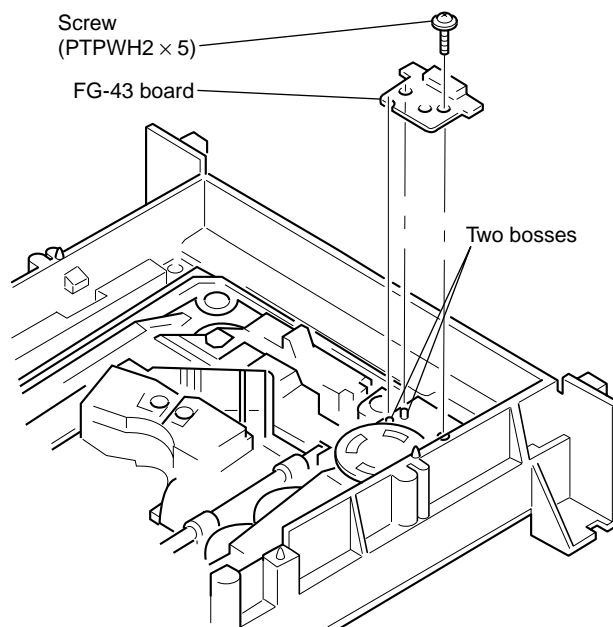

Fig. 12
- 1) Align two bosses. (See Fig. 12)